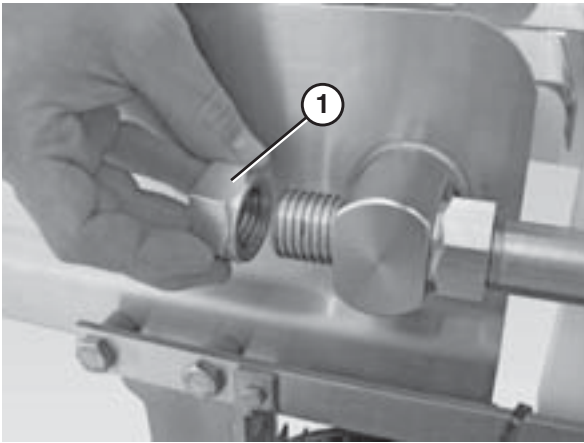

**Figure 62**
- Remove the bearing shafts (Figure 62, item 1) and both pinch guards (Figure 62, item 2).